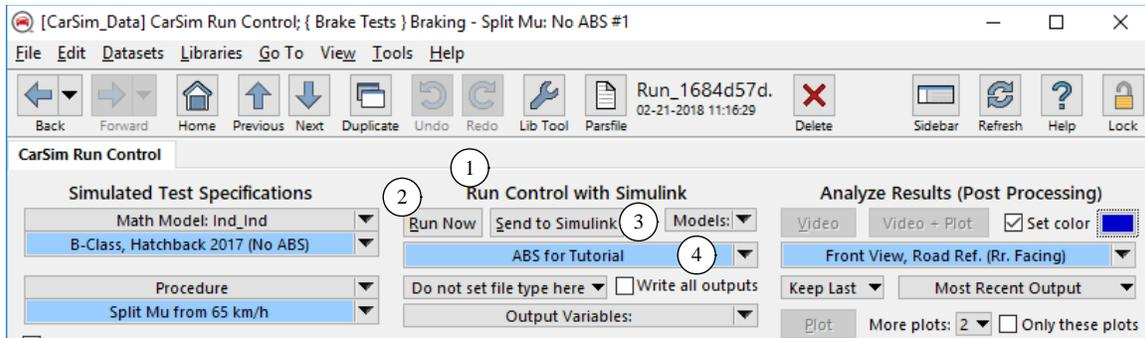
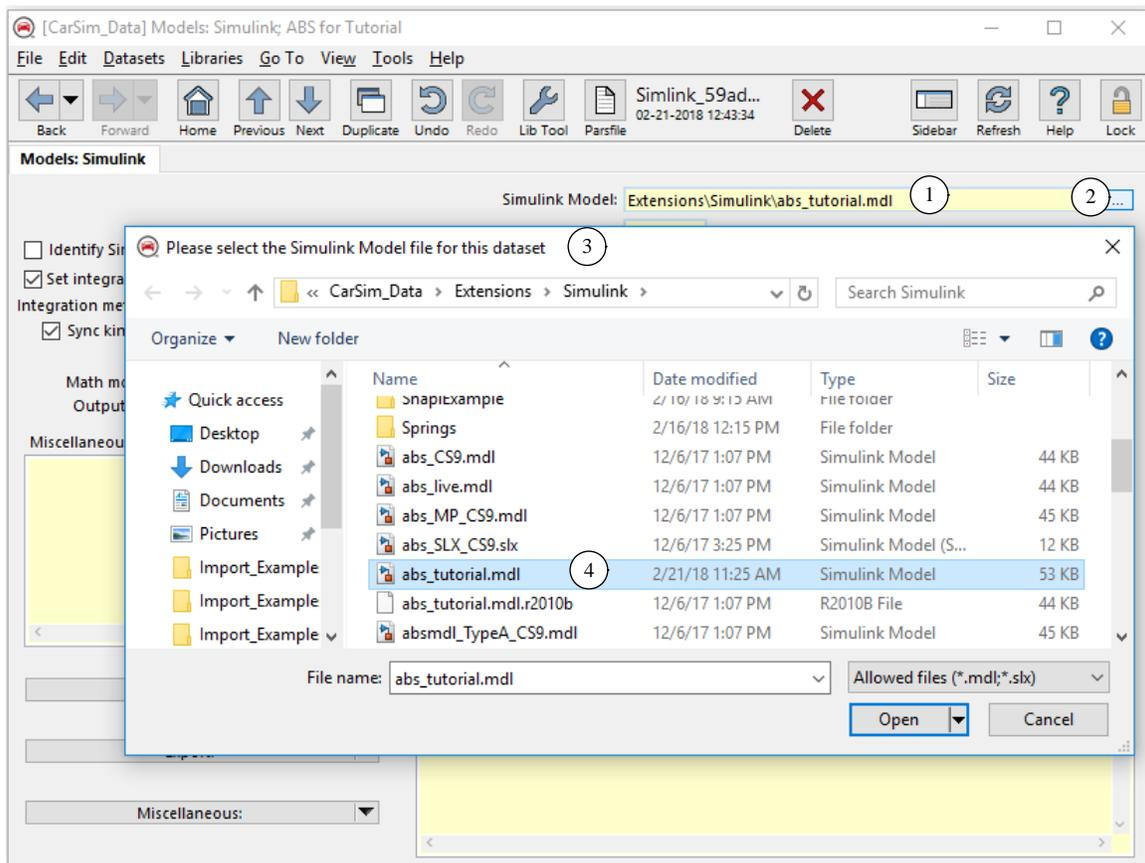
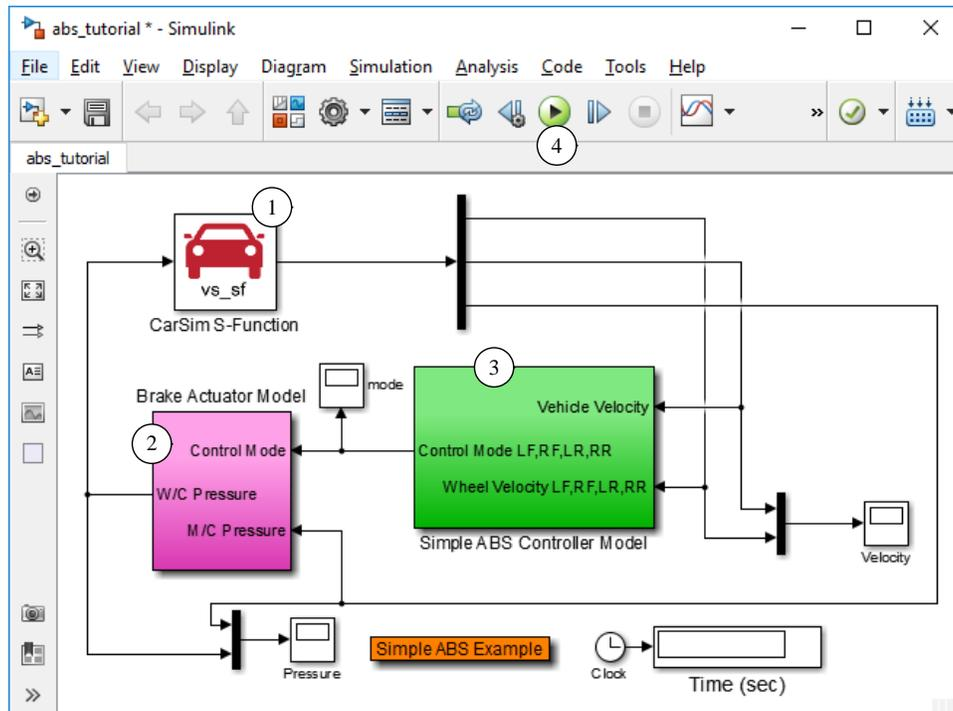
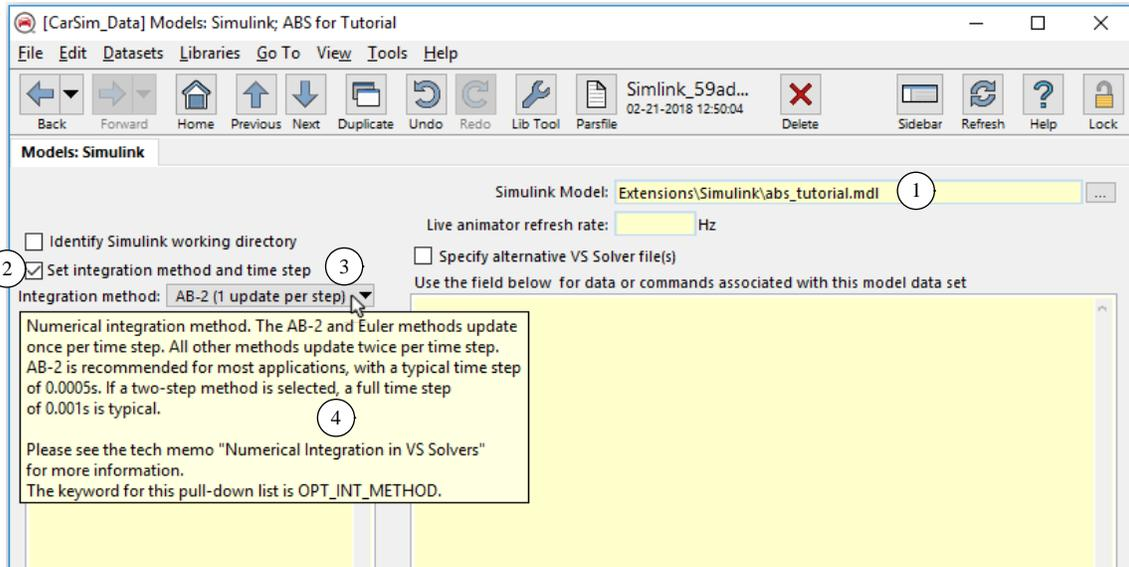

Figure 12. Appearance of Run Control screen with link to Simulink dataset.
Figure 13. Select the Simulink model using the Windows file browser.
Figure 14. ABS tutorial example before it is modified.
Figure 18. Models: Simulink dataset for the ABS controller.
- Notice that the screen has new controls after the link is made to the new dataset (4) (Figure 12). The title in the center part of the screen now reads **Run Control with Simulink** (1), and there are two new buttons: **Run Now** (2) and **Send to Simulink** (3). Click on the link for the newly linked dataset (4) to view it (Figure 13).
5. Use the **Back** button or the **Home** button to return to the **Run Control** screen (Figure 12).
6. Click the **Send to Simulink** button (3) from the **Run Control** screen (Figure 12). The VS Browser (CarSim/TruckSim/BikeSim) will launch Simulink using the file `abs_tutorial.mdl`. Figure 14 shows the CarSim example model, with an S-Function identified with the CarSim icon (1). The TruckSim and BikeSim examples are similar, but use the icons associated with those products.
You should be viewing the **Run Control** screen linked to your new Models Simulink dataset (Figure 12, page 7). Once again, click on the blue link (4) to view the **Models: Simulink** screen (Figure 18).
Besides the integration method (3), controls are shown for selecting the time step (6). As indicated by the right-click pop-up hint (4) (Figure 18), a typical time step when using Euler or AB-2 is 0.0005s (6).